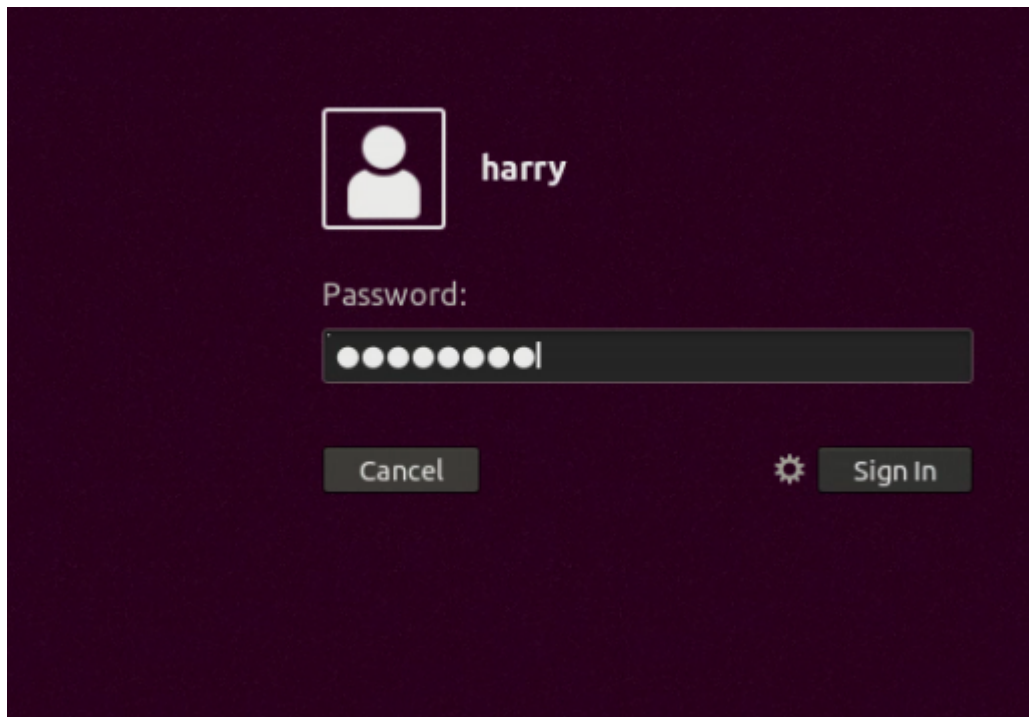

Figure 6.
5. Login to your target platform, take a photo of your login page with your user ID similar as in Figure 6.